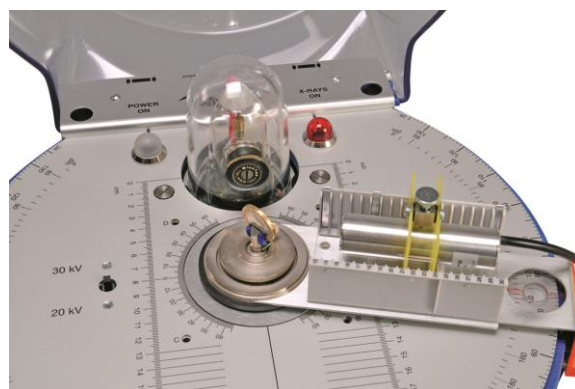

Fig. 2 Inserting the X-ray energy detector into the goniometer arm of the X-ray apparatus
- Insert the X-ray energy detector into the magazine of the goniometer arm at the desired distance (see Fig. 2).